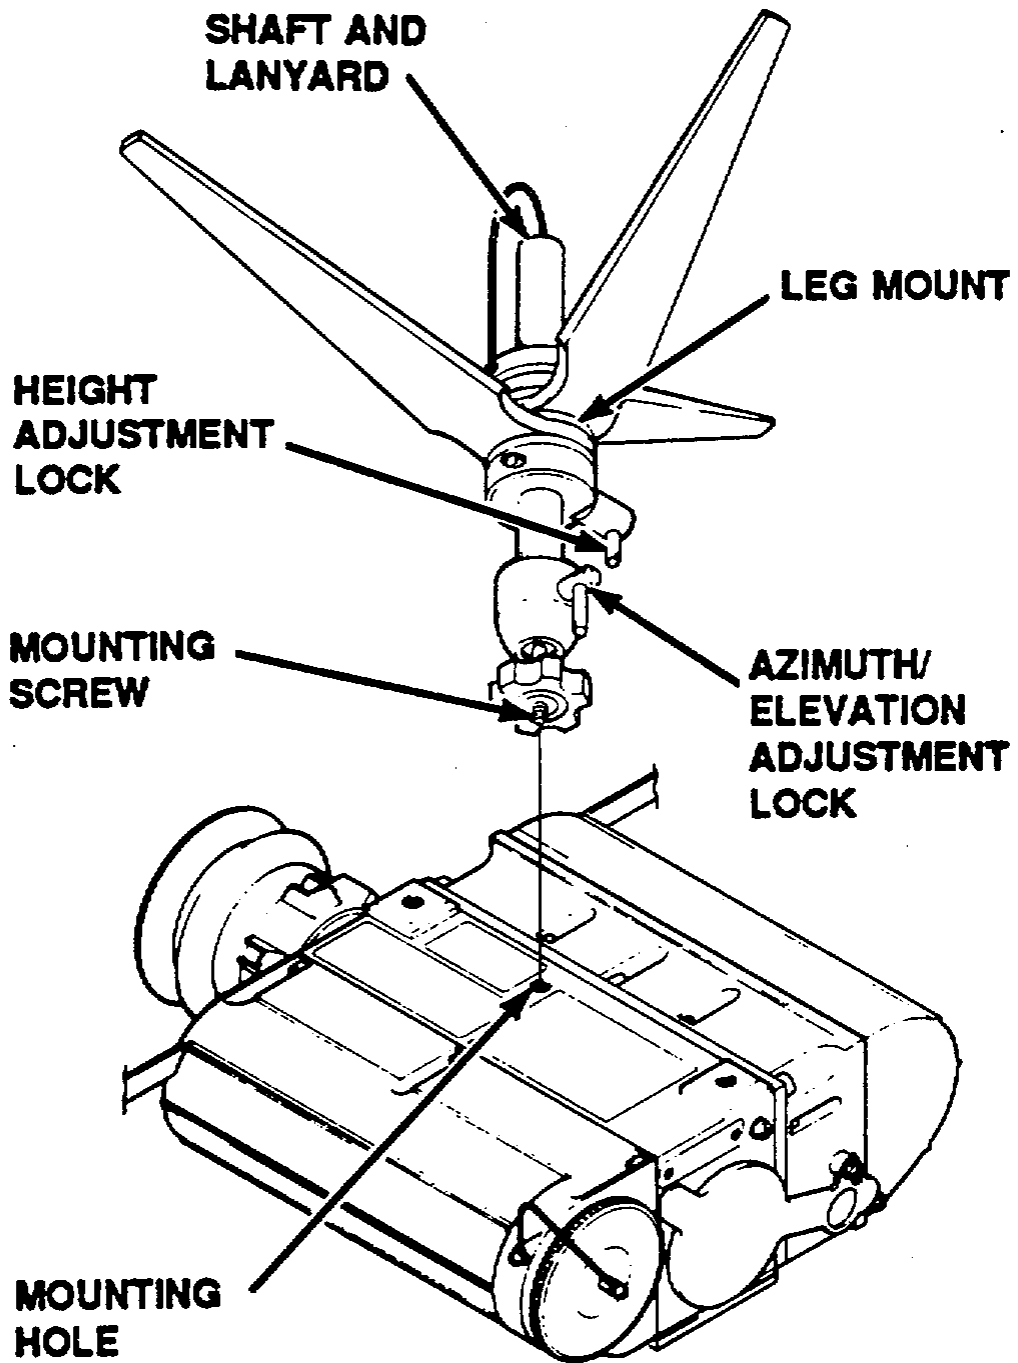

Figure 2-16. Tripod Mounting
- Invert MLRF and place on flat surface with tripod mounting hole facing up (Figure 2-16)
- Release tripod height adjustment lock and withdraw shaft and lanyard from leg mount Figure 2-16